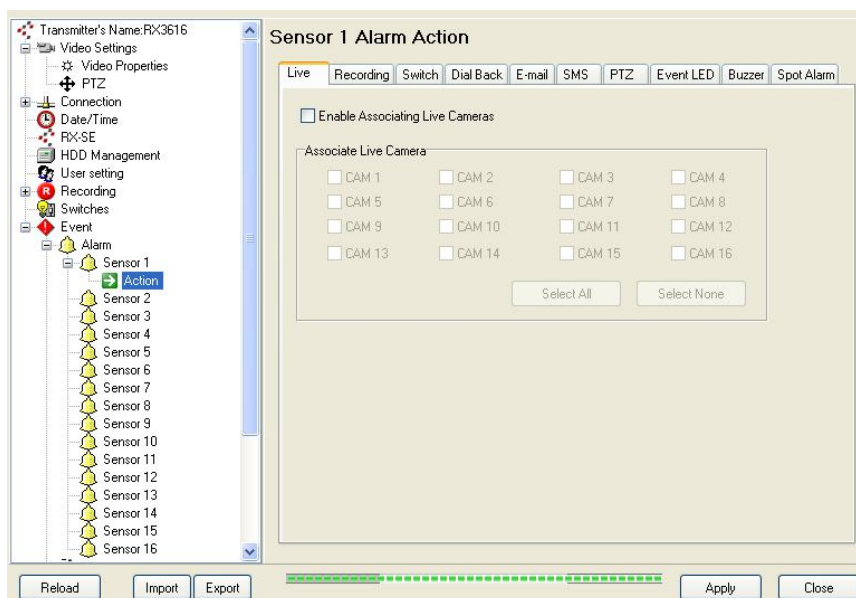

Fig 8.2c
Step 2 : User can select the action setting for that event as shown on **Fig 8.2c**.